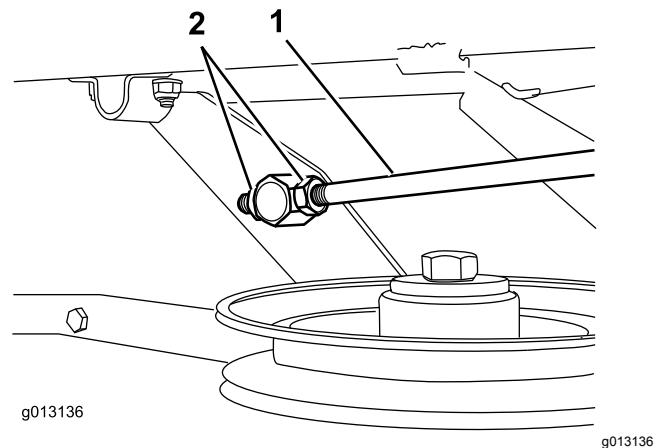

Figure 42
2. To obtain the proper height distance between the front and rear tips of the left blade, adjust the length of the linking rod (located on the left side of the machine) (Figure 42).